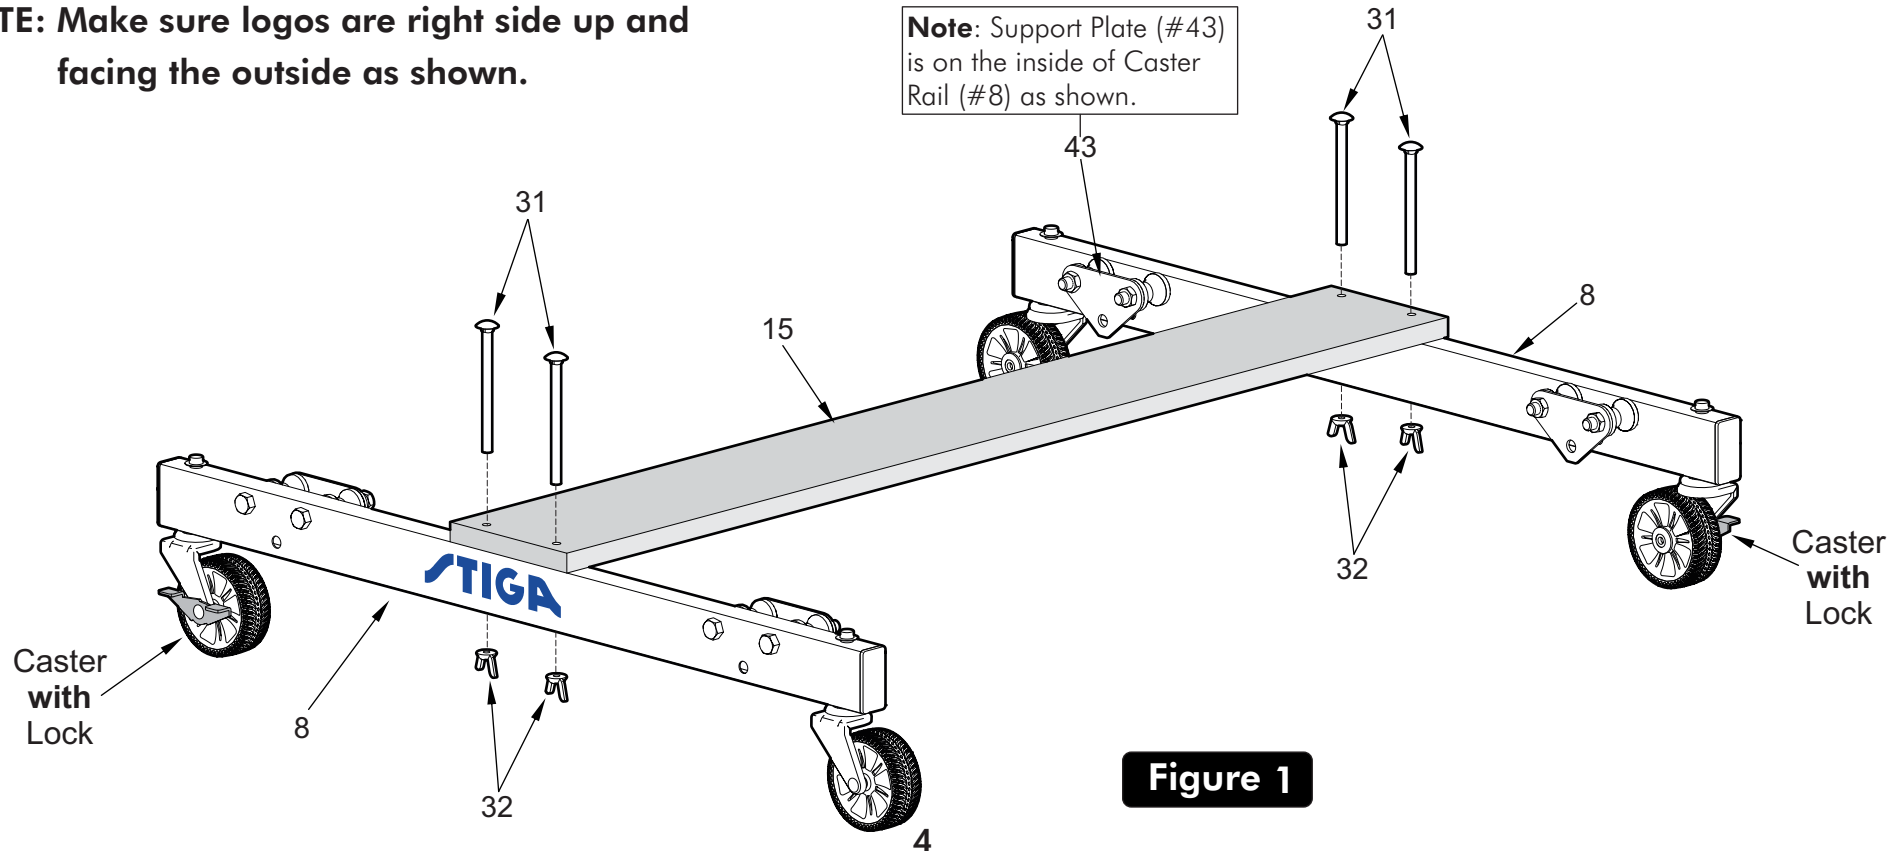

Figure 1
1. Attach Wood Bottom Board (#15) to Caster Beam Assemblies (#8) as shown in **Figure 1**. Turn Caster Beams as shown and attach board with four Carriage Bolts (#31) and four Wing Nuts (#32). Tighten Wing Nuts securely.